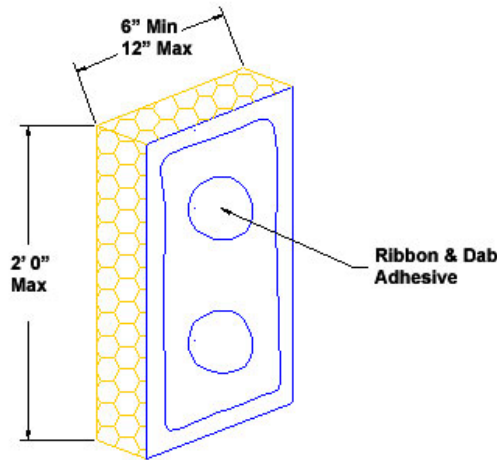
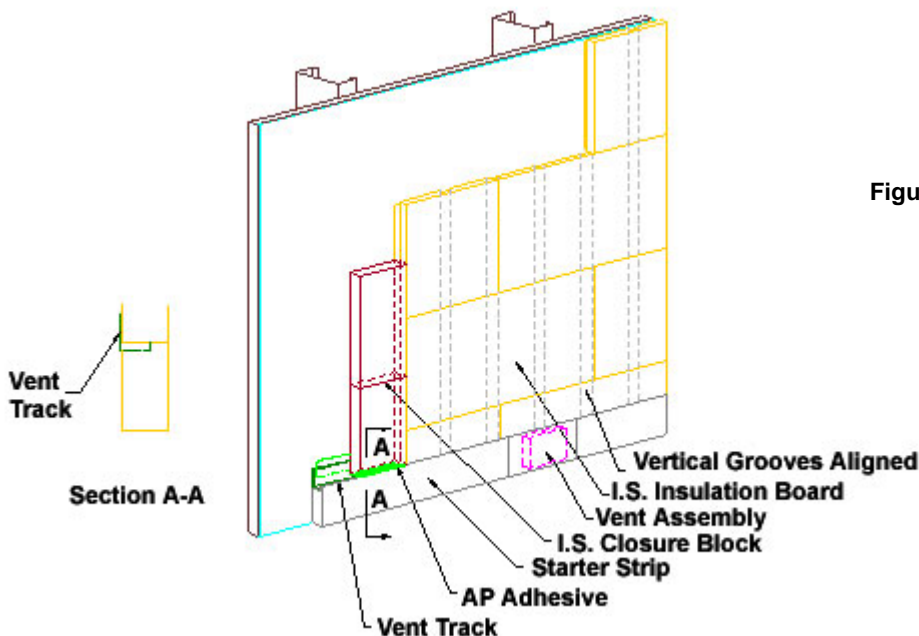

Figure 21
Figure 22
b. Apply the Dryvit Adhesive mixture to the back of the I.S. Closure Blocks using a ribbon and dab adhesive pattern as shown in Figure 21 and position along the compartment separation line as shown in Figure 22.